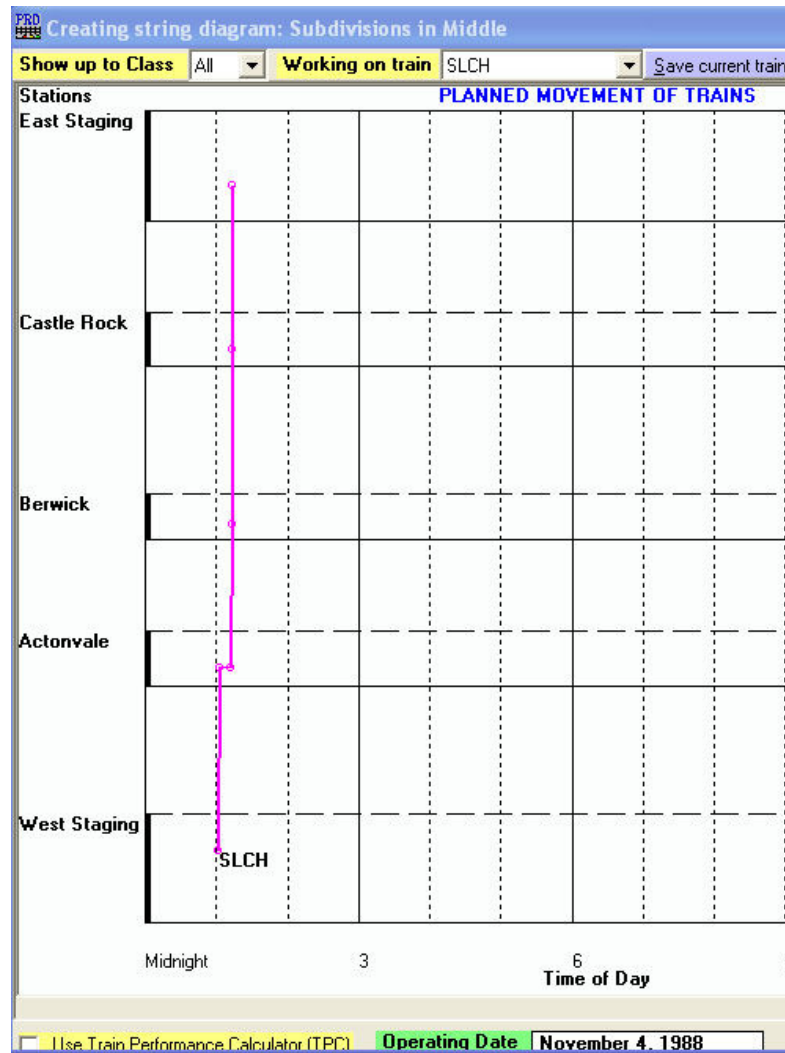

Figure 12-16
14. To eliminate the station stop at Castle Rock we need to move the 'dot' representing the departure time to the left until the "New Time" data field shows 1:14 am – the same as the arrival time. Place your mouse pointer on the 'dot' representing the departure time in the "Castle Rock" area of the diagram. Click and hold the left hand mouse button down; drag the end of the line to the left until the time in the "New time" data field reads "1:14 AM" then release the mouse button. Figure 12-16 shows what the "Creating string diagram..." window now looks like. As you can now see, Castle Rock looks just like Berwick – train SLCH passes through without stopping.